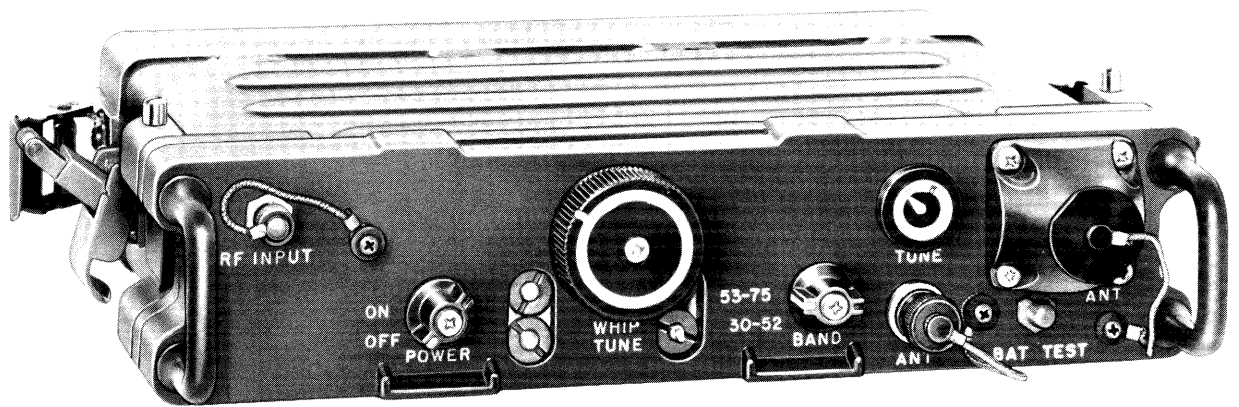

Figure 1-1. Amplifier, Radio Frequency AM-4306/GRC.
a. This manual describes the Amplifier, Radio Frequency AM-4306/GRC (fig. 1-1), and covers its installation, operation, and maintenance. It includes normal operating procedures, and instructions for operational checks, testing, and operator's and organizational maintenance.
- (1) Preventive maintenance
- (2) Visual inspection
- (3) Testing of Battery, Dry BA-801()/PRC
- (4) Replacement of Battery, Dry BA-801()/PRC
- (5) Operational check